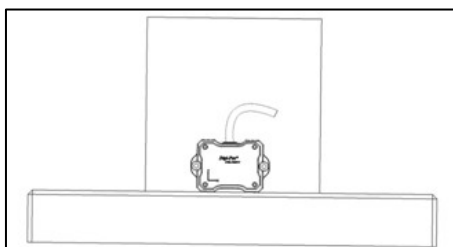

Figure 35. Tilt Sensor Module Position of Calibration Step 1
3. Locate the sensor module as following Figure 35. The sensor is ready for user to perform calibration step 1.
10. For **DWL5500XY & DWL5800XY** model, please perform only 4 steps calibration as shown in Figure 35, 36, 41, and 42.